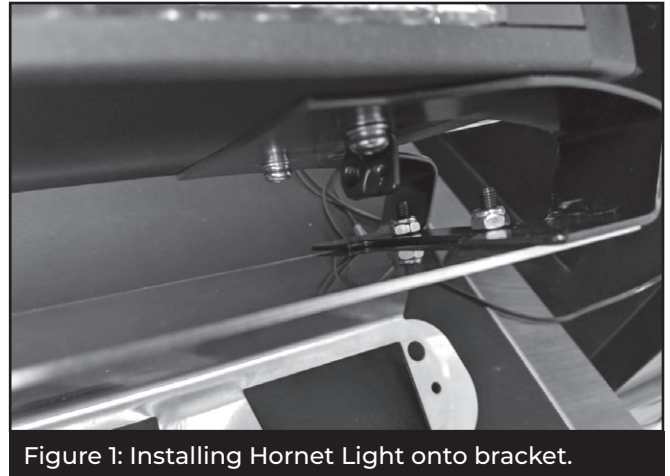

Figure 1: Installing Hornet Light onto bracket.
- 3** Remove the 3rd brake light by pulling outwards from the bottom of the light and unplugging the 3rd brake light from its harness. (Figure 1)